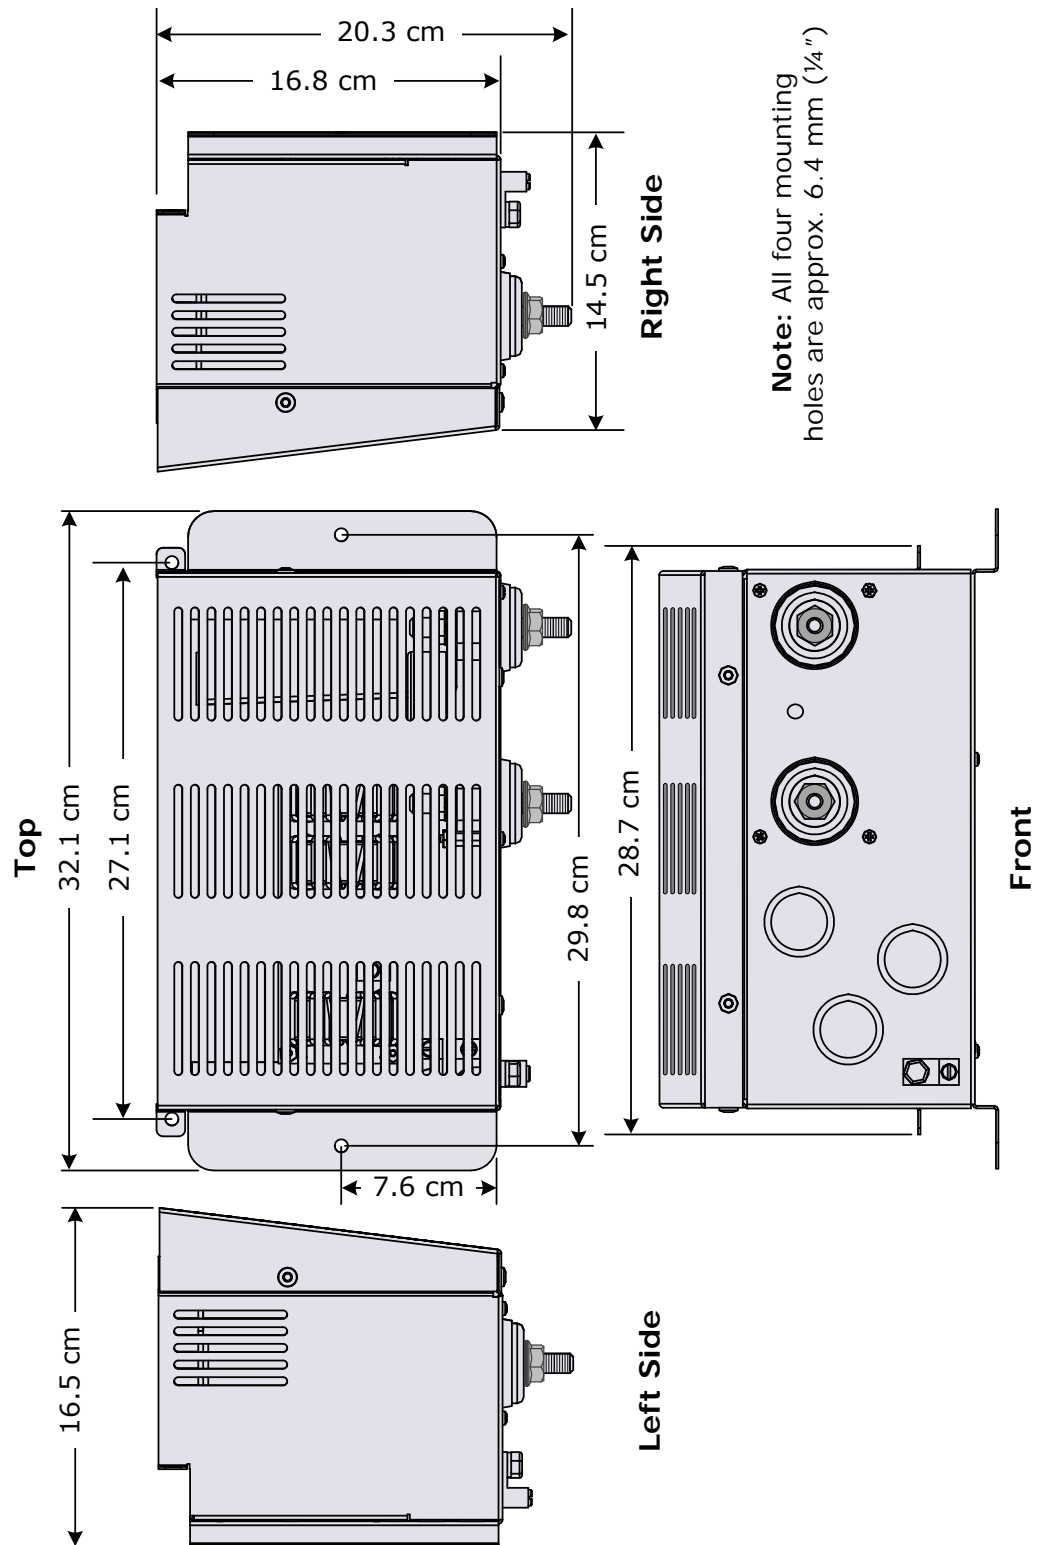

Figure 3, MS-CEFB Dimensions
The MS-CEFB provides knockouts for use with 3/4" and 1" trade size\* conduit, and adds just over 20 cm to the length of the inverter (see Figure 3).
6. Determine the AC and DC wiring through the filter box, and then remove the appropriate knockouts (Figure 3).